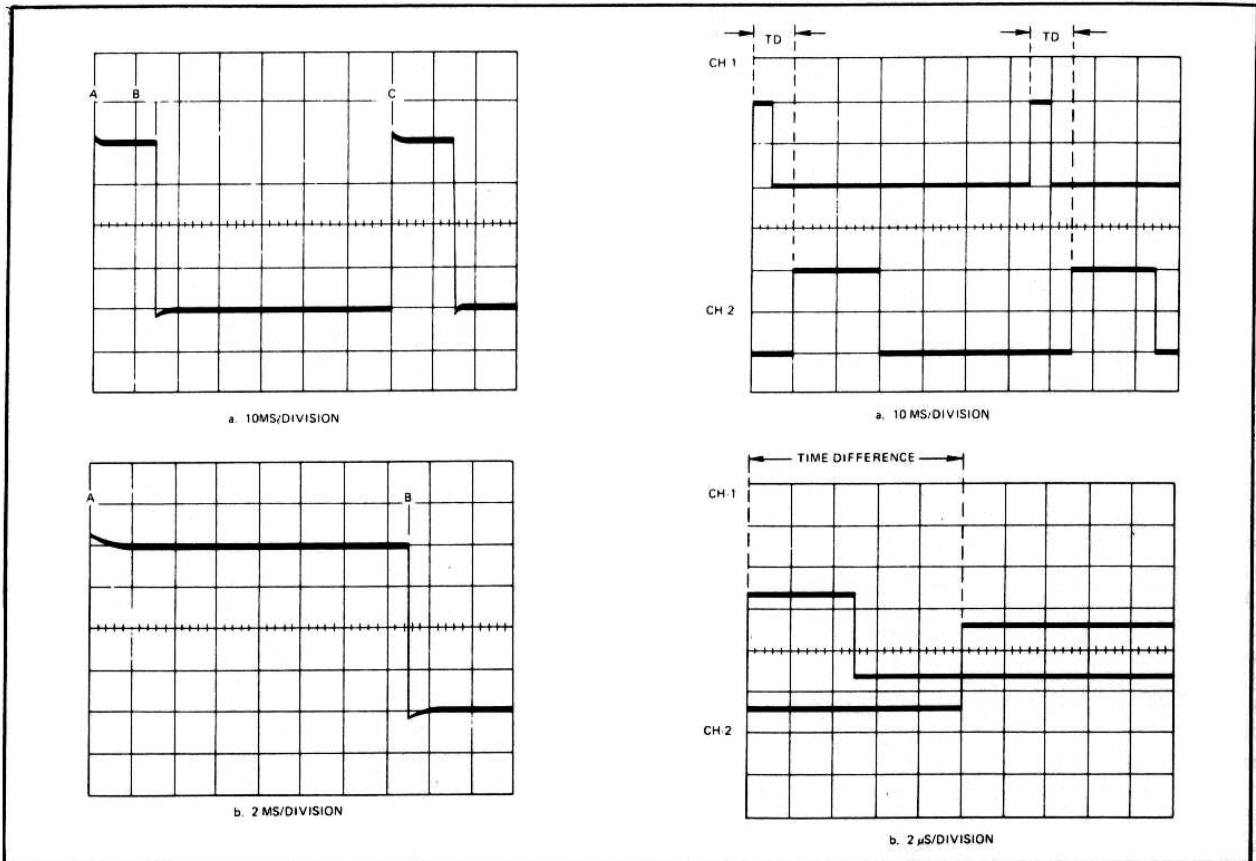

Figure 2-17.
The period of a pulse or any other waveform is the time it takes for one full cycle of the signal. In Figure 2-17, the distance between points (A) and (C) represent one cycle; the time interval of this distance is the period. The time scale for the CRT display of Figure 2-17a is 10 mS/div, so the period is 70 milliseconds in this example.